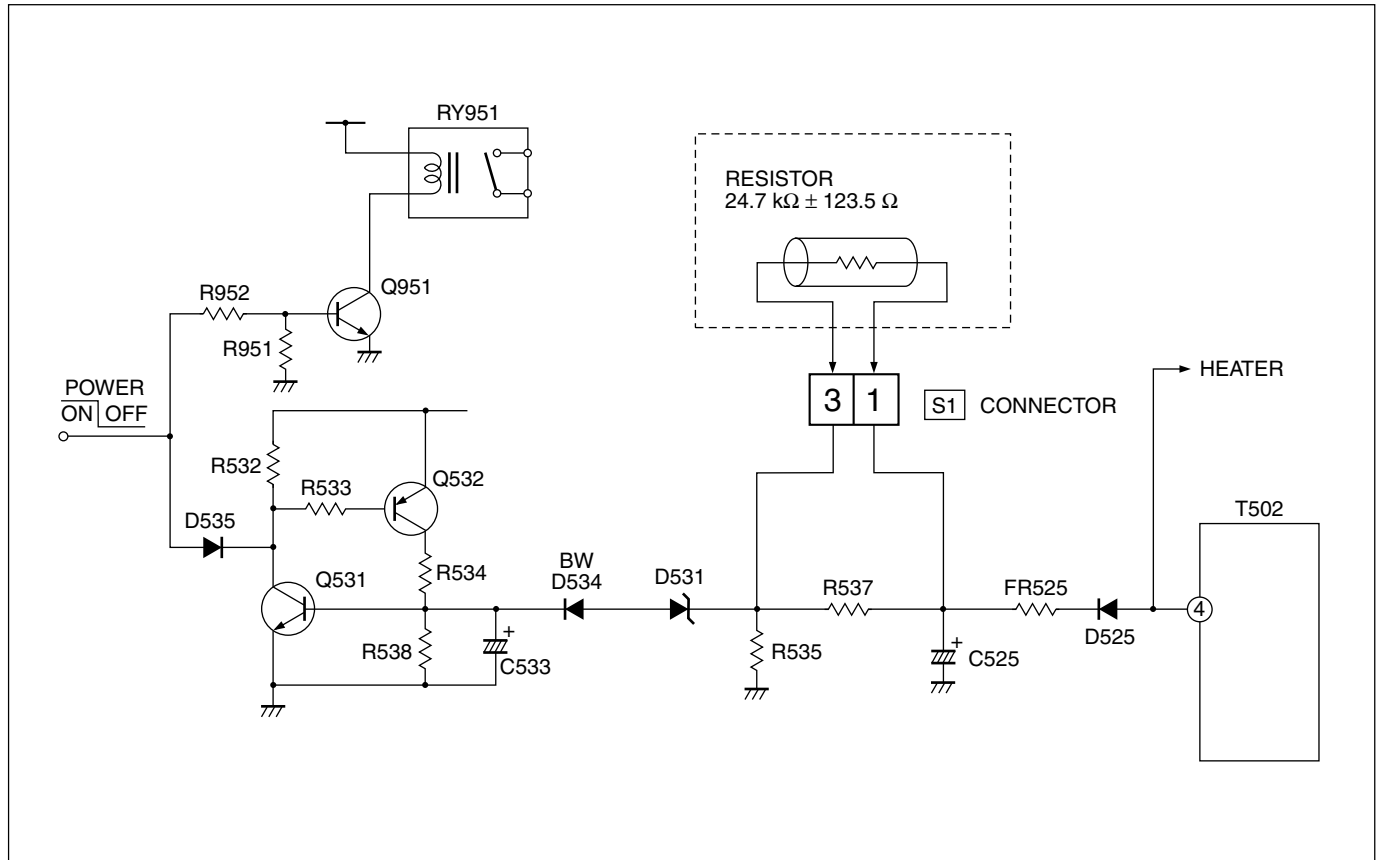

Fig. 1
After repairing the high voltage hold down circuit shown in Fig. 1.
- (1) Turn the POWER SW ON.
- (2) As shown in Fig. 1, set the resistor (between **S1** connector **1** & **3**).
- (3) Make sure that the screen picture disappears.
- (4) Temporarily unplug the power cord.
- (5) Remove the resistor (between **S1** connector **1** & **3**).
- (6) Again plug the power cord, make sure that the normal picture is displayed on the screen.